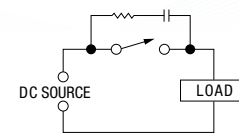

Figure 4 — R-C Suppression ($1 \Omega / kV$; 0.125–1 MFD)
2. Vacuum switches using an R-C suppression across the contacts can interrupt slightly higher currents with less arcing time, which increases contact life. (See Figure 4.)